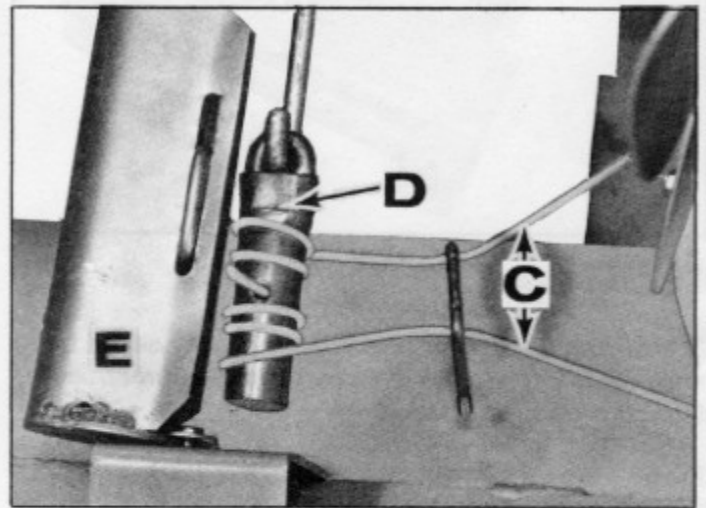

Fig. 8
Cable (C) is wound around tube (D) 2 1/2 turns each way. Both ends of cable should be equal length. (Fig. 8) This will allow the discharge chute to turn equal amounts in each direction from forward.